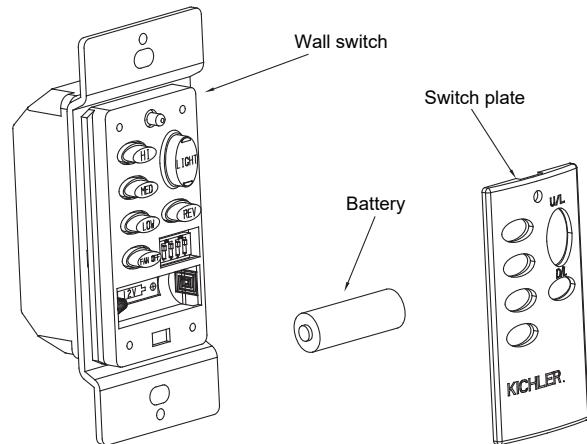

Fig. 19
Step 1. Use a small flat screwdriver at the top or bottom of the switch plate to gently pry apart the switch plate from the wall switch. Install the 12volt battery included with the wall mount control system and make sure it is seated correctly. Replace the switch plate (**Fig. 19**).
Step 2. Test the transmitter by pressing and releasing ANY button. A RED light should illuminate. If not, check to make sure the battery is inserted and seated correctly (**Fig. 19**).